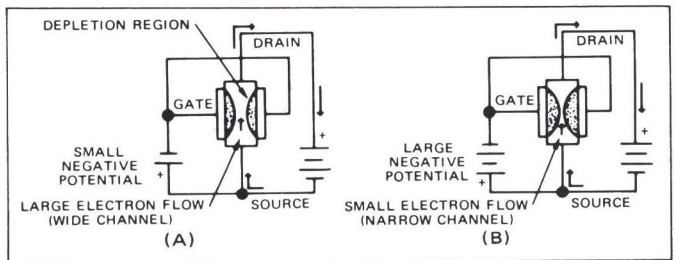

Figure 3. Biasing and Electron Flow - N-Channel FET
The "field" is the depletion region formed by the reverse biased PN junction. (The FET exhibits a high input impedance because of this reverse bias.) The depletion principle is illustrated in Figure 3 and can be roughly compared to a reverse biased PN junction in a standard transistor.
As illustrated in Figure 3 (A) a small negative potential applied between the gate and source results in a large electron flow, due to the small depletion area and resultant wide channel. An increase in gate-to-source reverse bias enlarges the depletion area and narrows the channel, as shown in 3 (B). The reverse bias can be increased to a point where no current flows through the channel. This point is referred to as the V_P or "pinch-off" voltage and will vary to some degree with applied potentials. Unlike the ordinary transistor (bipolar) virtually no current flows in the source-to-gate direction, thus resulting in a very high input impedance.